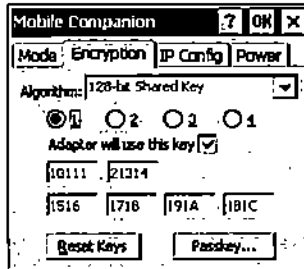
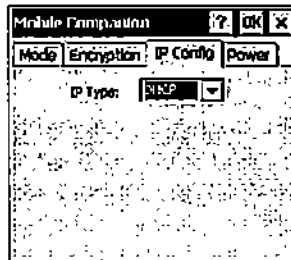

Figure B-5. Encryption Tab
Figure B-6. Mobile Companion - IP Config Tab (DHCP)
3. Select **Default** from the list box and tap **Edit** to display the *Mode* tab, where the ESSID and operating mode can be changed for the **Default** profile. Use the *Encryption* tab (Figure B-5 on page B-8), *IP Config* tab (Figure B-6 on page B-10 and Figure B-7 on page B-10), and *Power* tab (Figure B-8 on page B-12) as necessary to edit the profile power consumption and security parameters.